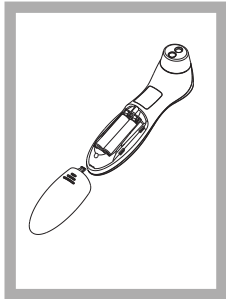

Figure 11
3. Remove battery and install 2 new AAA alkaline batteries as shown in Figure 11 .